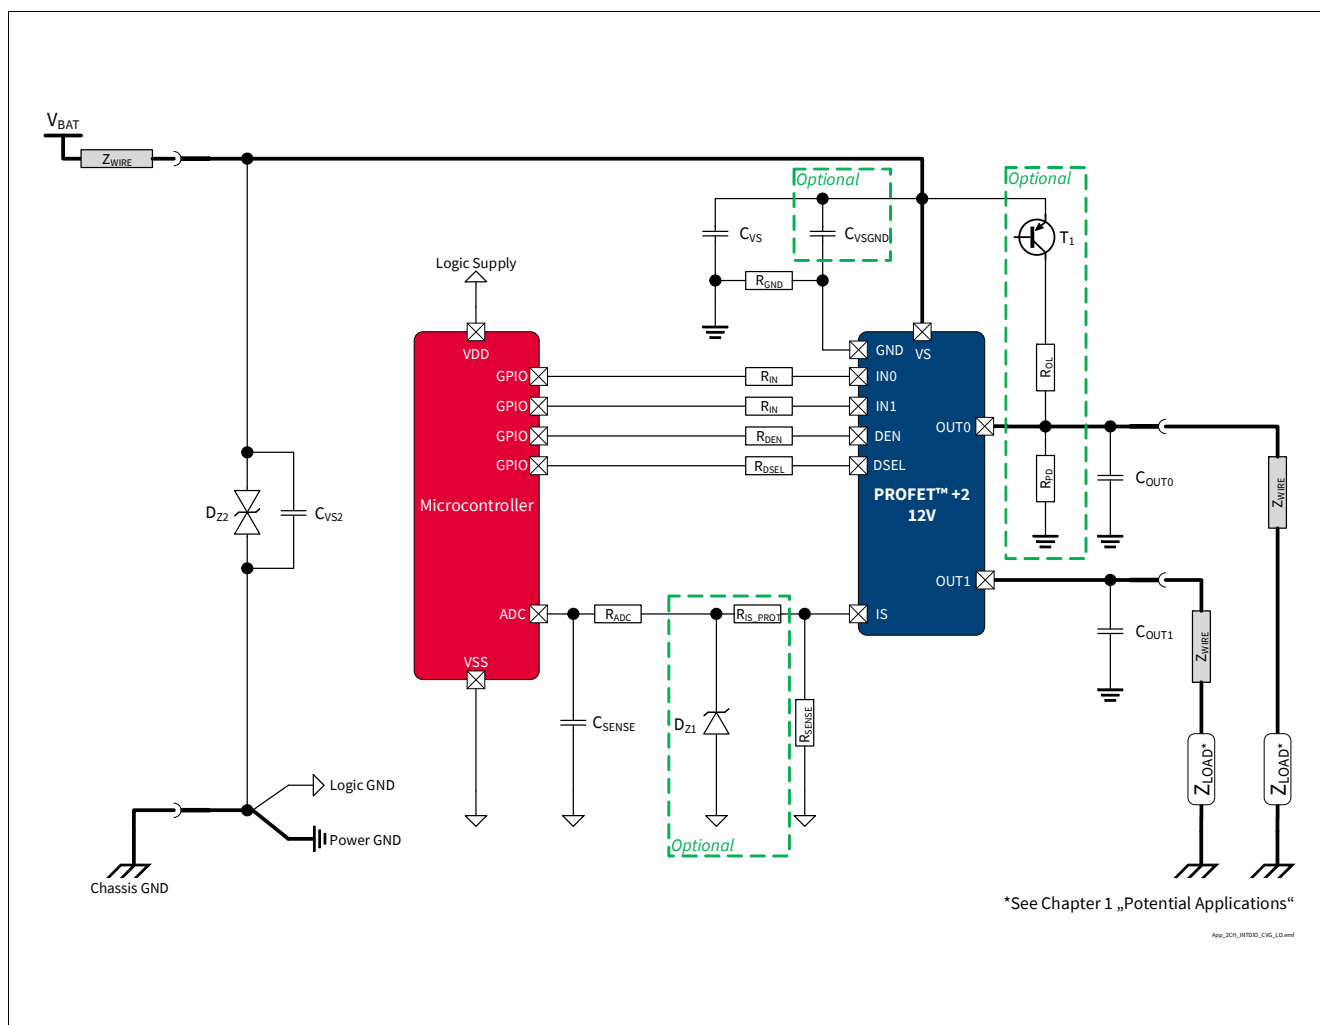

Figure 43 BTS7012-2EPA Application Diagram
1.05 , 2019-10-15	P_8.7.3.1, P_8.7.3.7, P_8.7.3.8 updated (added in Note or Test Condition: link to Figure 25) P_7.5.3.4, P_7.5.3.5 updated (added in Note or Test Condition: DEN = "low"; link to Figure 19) P_7.5.3.12 updated (added in Note or Test Condition: see Figure 21; deleted unnecessary space in Symbol: $dV_{OUT} / dt \rightarrow dV_{OUT} / dt$) P_8.7.3.6 updated (added in Note or Test Condition: see Figure 26) P_9.7.3.1 updated (added in Note or Test Condition: See Figure 34) P_9.7.3.6 updated (Min./Typ./Max.: -45%/4800/+45% → -34.0%/4875/+34.0%) P_9.7.3.9 updated (Min./Typ./Max.: -38%/4800/+38% → -25.0%/4875/+25.0%) P_9.7.3.12 updated (Min./Typ./Max.: -34%/4800/+34% → -22.5%/4875/+22.5%) P_9.7.3.15 updated (Min./Typ./Max.: -22%/4800/+22% → -12.5%/4875/+12.5%) P_9.7.3.17 updated (Min./Typ./Max.: -9%/4800/+9% → -7.7%/4875/+7.7%) P_9.7.3.19 updated (Min./Typ./Max.: -6%/4800/+6% → -4.5%/4875/+4.5%) P_9.7.3.21 updated (Min./Typ./Max.: -5%/4800/+5% → -4.0%/4875/+4.0%) P_7.5.3.11 updated (added in Note or Test Condition: see Figure 19) Figure 1, Figure 43 updated Chapter 1 updated (or LED equivalent → or equivalent electronic loads (e.g. LED modules)) P_4.3.0.7 added Table 24 updated Chapter 5.1 updated (added: see Chapter 10 for the complete application setup overview)